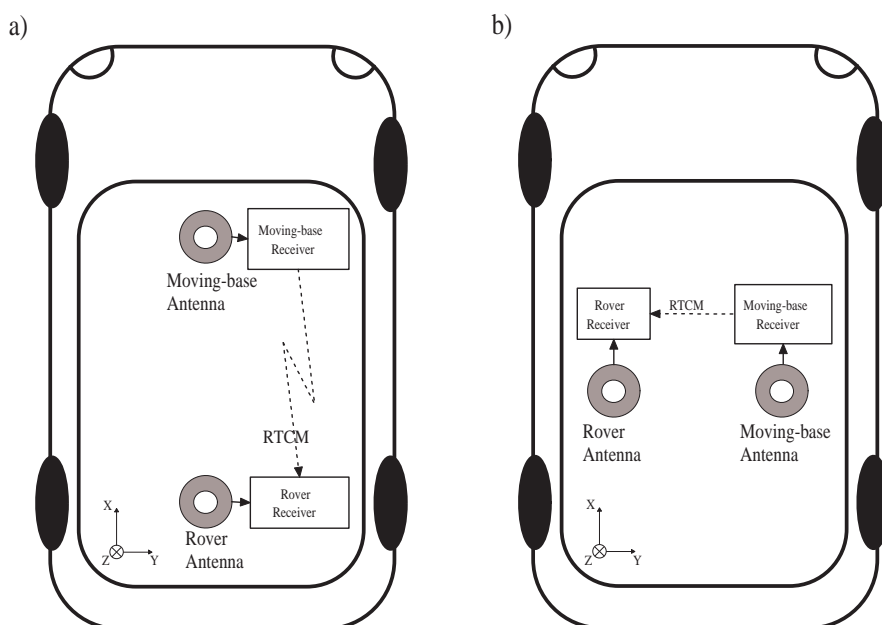

Figure 2-2: Moving-base attitude determination setup. a) default configuration. b) example of non-default configuration.
As of firmware release 2.0, the heading and pitch of a vehicle can be derived from the orientation of the baseline between a base and a rover antenna when both antennas are attached to the vehicle. The base antenna is connected to a first receiver configured as RTK moving base station. The rover antenna is connected to a second receiver configured as RTK rover and accepting the RTCM stream from the first receiver. This is illustrated in figure 2-2.
1. Attach two antennas to your vehicle. The default antenna configuration is as depicted in figure 2-2 a). It consists in placing the antennas aligned with the longitudinal axis of the vehicle. If such configuration is not possible, you will have to specify the relative position of your antennas, as explained below. For best accuracy, try to maximize the distance between the antennas.
5. By default, the attitude angles are computed assuming that the two antennas are aligned with the longitudinal axis of the vehicle, and that the moving-base antenna is in front of the rover antenna (see figure 2-2 a)). If you cannot place the antennas in such configuration, the reported attitude angles will be biased. That bias can be removed by telling the receiver where the moving-base antenna is located in the vehicle reference frame (see appendix A). This is done by specifying the coordinates of the baseline between the rover ARP and the moving-base ARP in the X, Y and Z directions. For example, in the configuration b) of figure 2-2, assuming that the distance between the antenna ARPs is 1 meter, you would issue (on the rover receiver):